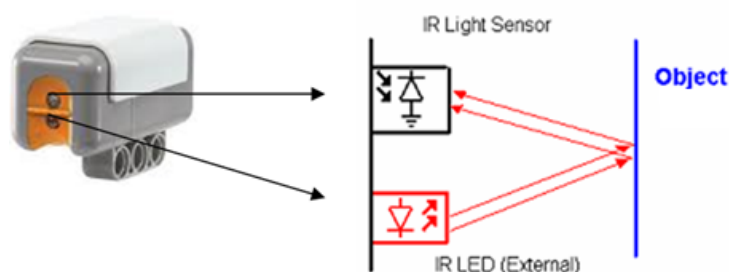

Figure 1. The technical details of a light sensor
1. Please try to understand the working principle of light sensors using NXT 2.0. You will find some technical details of light sensor presented in figure 1.